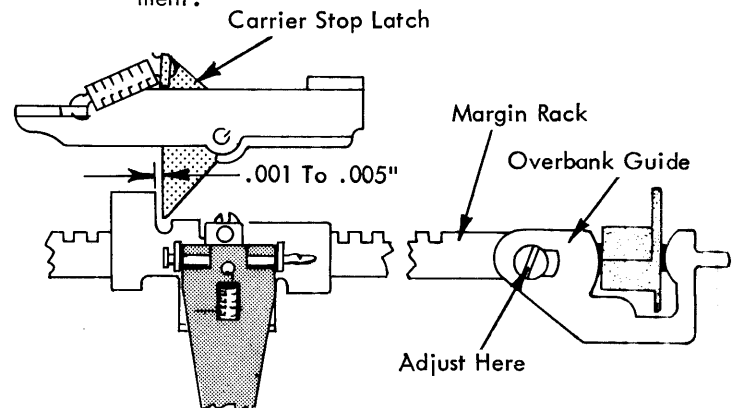

FIGURE 212. Margin Rack Overbank Guide Adjustment (Late)
The overbank adjustment insures that the escapement pawl will enter the correct escapement rack tooth when the carrier return clutch is unlatched at the left margin. The adjustment may be observed from the top with the platen and deflector removed and the left margin stop positioned toward the middle of the rack. The overbank may also be adjusted by adjusting the margin rack bushing to clear the nylon washer on the margin rack by .025" to .030" with the carrier resting at the left margin. The right hand margin rack eccentric should be loose when making this adjustment (Fig. 212) so that the left margin stop will be against the stop latch on the carrier. The .025" to .030" compensates for the .022" floating action in the escapement pawl. (The correct adjustment for the margin rack eccentric is covered under the Margin Control section.)
- b. **Late Style** - With the carrier resting at the left margin stop, adjust the margin rack overbank guide (Fig. 212) left or right on the margin rack to obtain a clearance of .001" to .005" between the stop latch on the carrier and the left hand margin stop. On machines equipped with a floating stop latch, the floating action of the latch must be removed, by pulling the latch to the right with a spring hook, before this clearance can be observed.